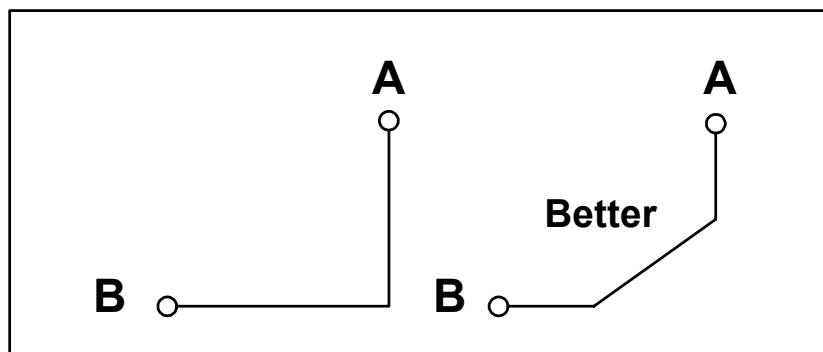

Figure 3. Signal Trace Angles
- Avoid right angle signal traces. Ninety degree trace corners should be minimized and it is recommended that the traces turn at 45° angles as shown in Figure 3. Sharp edges may add unexpected parasitic effects into the circuitry. Also, reducing the trace length will reduce trace inductance during quick energy bursts.